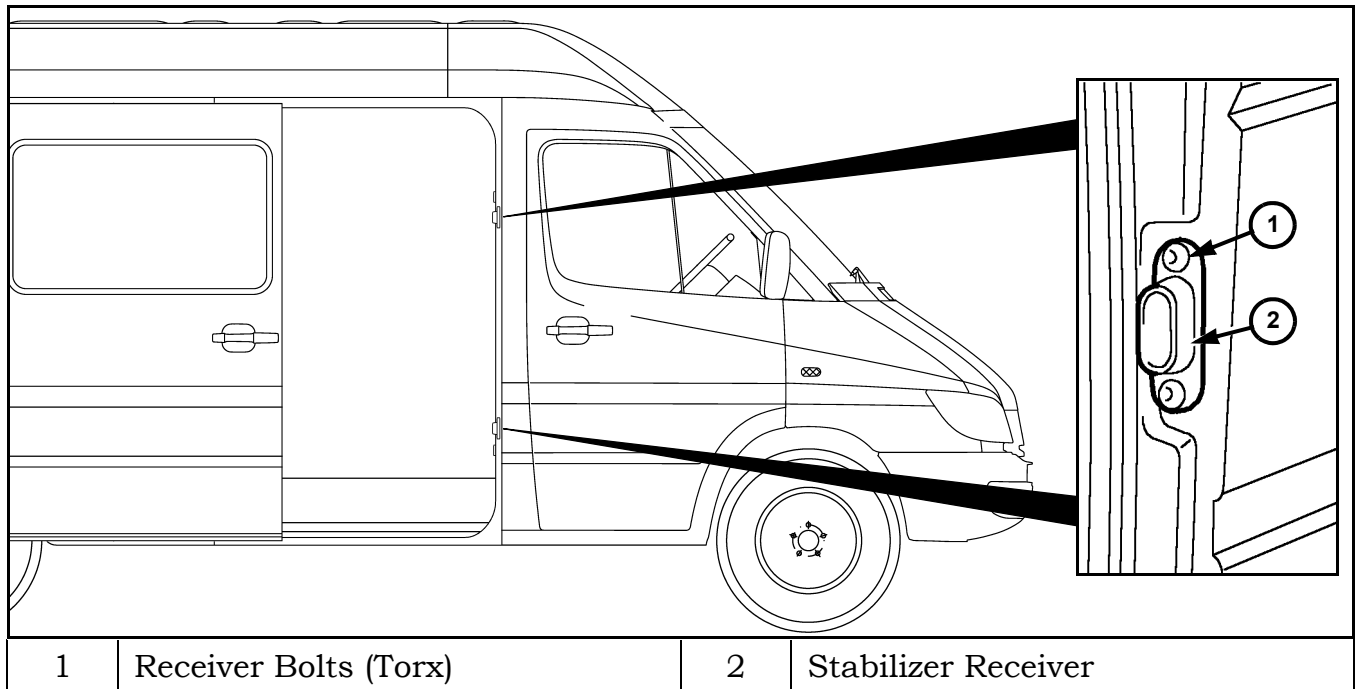

Figure 4 Door Stabilizer Receiver
3. Tighten door stabilizer receiver bolts to 10 N·m (89 in. lbs). See Figure 4.